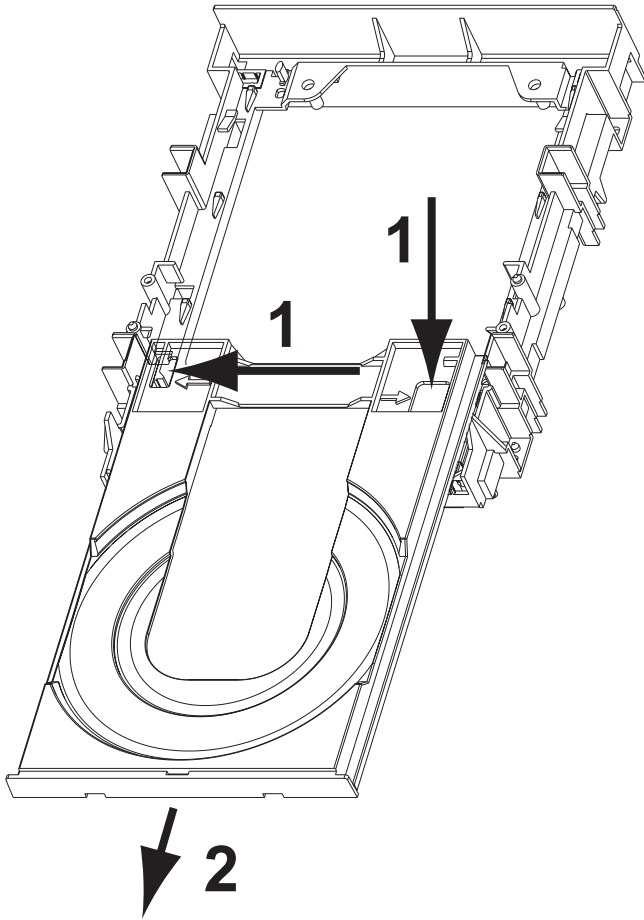

Figure 4-3 Remove Tray
- Disengage the two holders that fix the tray [1], see figure 4-3, and pull out the tray [2]